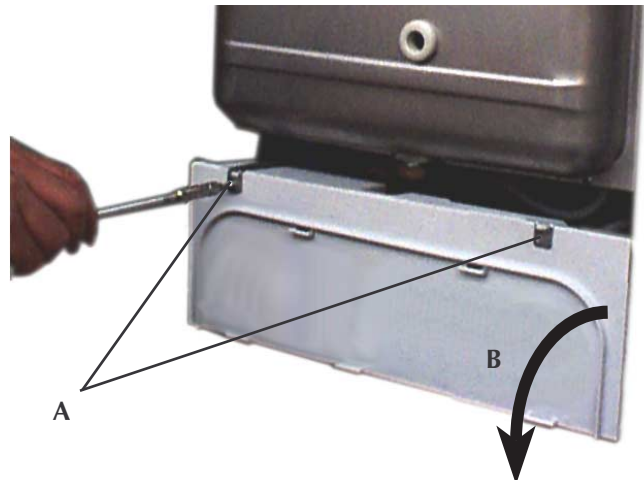

Fig. 24
7.03 To lower the control panel (fig. 24)
- Remove the two fixing screw (fig. 24) "A"